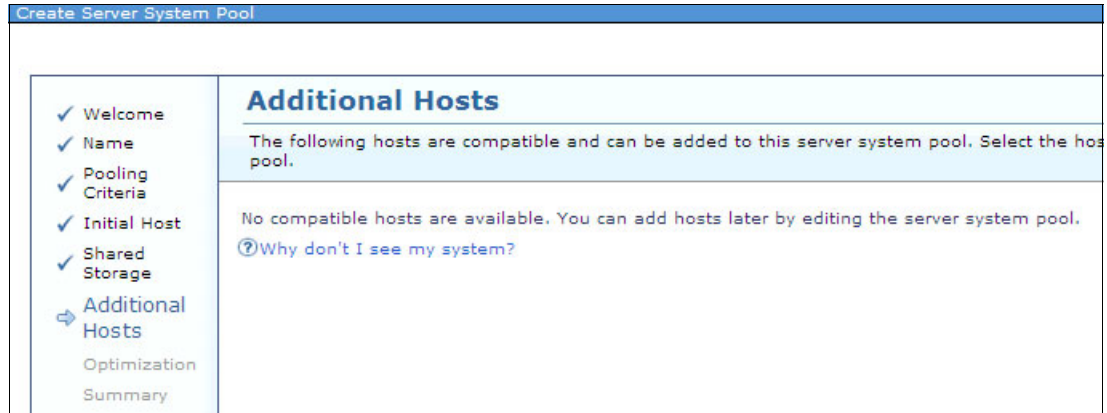

Figure 9-99 Additional Hosts window
8. If you have several hosts, you can add more hosts to your server system pool. This configuration increases high availability and the amount of resources that are shared in your system pool as shown in Figure 9-99. Click **Next**.